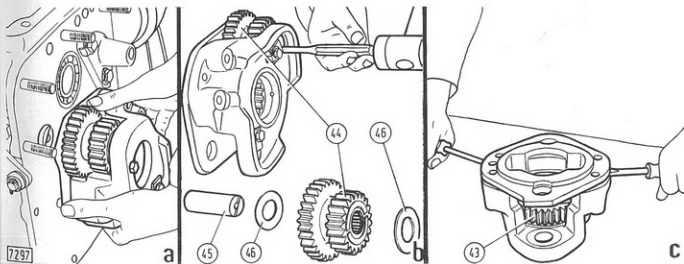
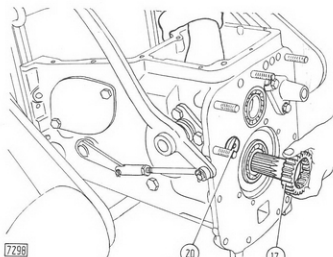
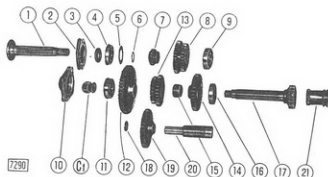

Fig. 113 - Speed Reduction Unit
Fig. 114 - Removing (or Refitting) Layshaft
Fig. 115 - Exploded View of the Gear Assembly
Note: If also layshaft (17, Fig. 114) has to be dismantled, remove front cover (10, Fig. 115) and slacken locking nut (C_1) thus causing two speeds to be engaged at the same time.
4. Speed reduction assembly (see Fig. 113).
5. Layshaft (17, Fig. 114) and gears (12, 13 and 14, Fig. 115).
6. Reverse speed idler gear and shaft (19 and 20, Fig. 115). Withdraw shaft (20) using impulse extractor Part No. **290795**, with threaded adaptor M 10 x 1.25.
The backlash should be as specified. Speed reduction gears (43 and 44, Fig. 113) and reverse gear (19, Fig. 115) should not show undue end clearance; if necessary, renew the shims.
Reassemble the gearbox as shown in Figs. 115 and 119. Moreover:—